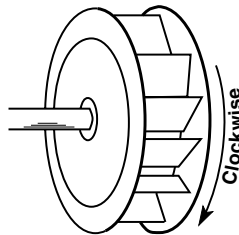

Figure 10
2. **Wheel Rotation:** Direction of wheel rotation is critical. Reversed rotation will result in poor air performance, motor overloading and possible burnout. Check wheel rotation by momentarily energizing the unit (all direct and belt drive fans have clockwise wheel rotation when viewed from top of fan). Rotation should be clockwise as shown in Figure 10 and correspond to the rotation decal on the unit. If wheel rotation is incorrect, reverse two of the wiring leads for 3 phase or check motor wiring for single phase. Fan rpm should be checked and verified with a tachometer.
3. Start the fan and shut it off immediately to check rotation of the wheel with directional arrow in the motor compartment, see Figure 10.